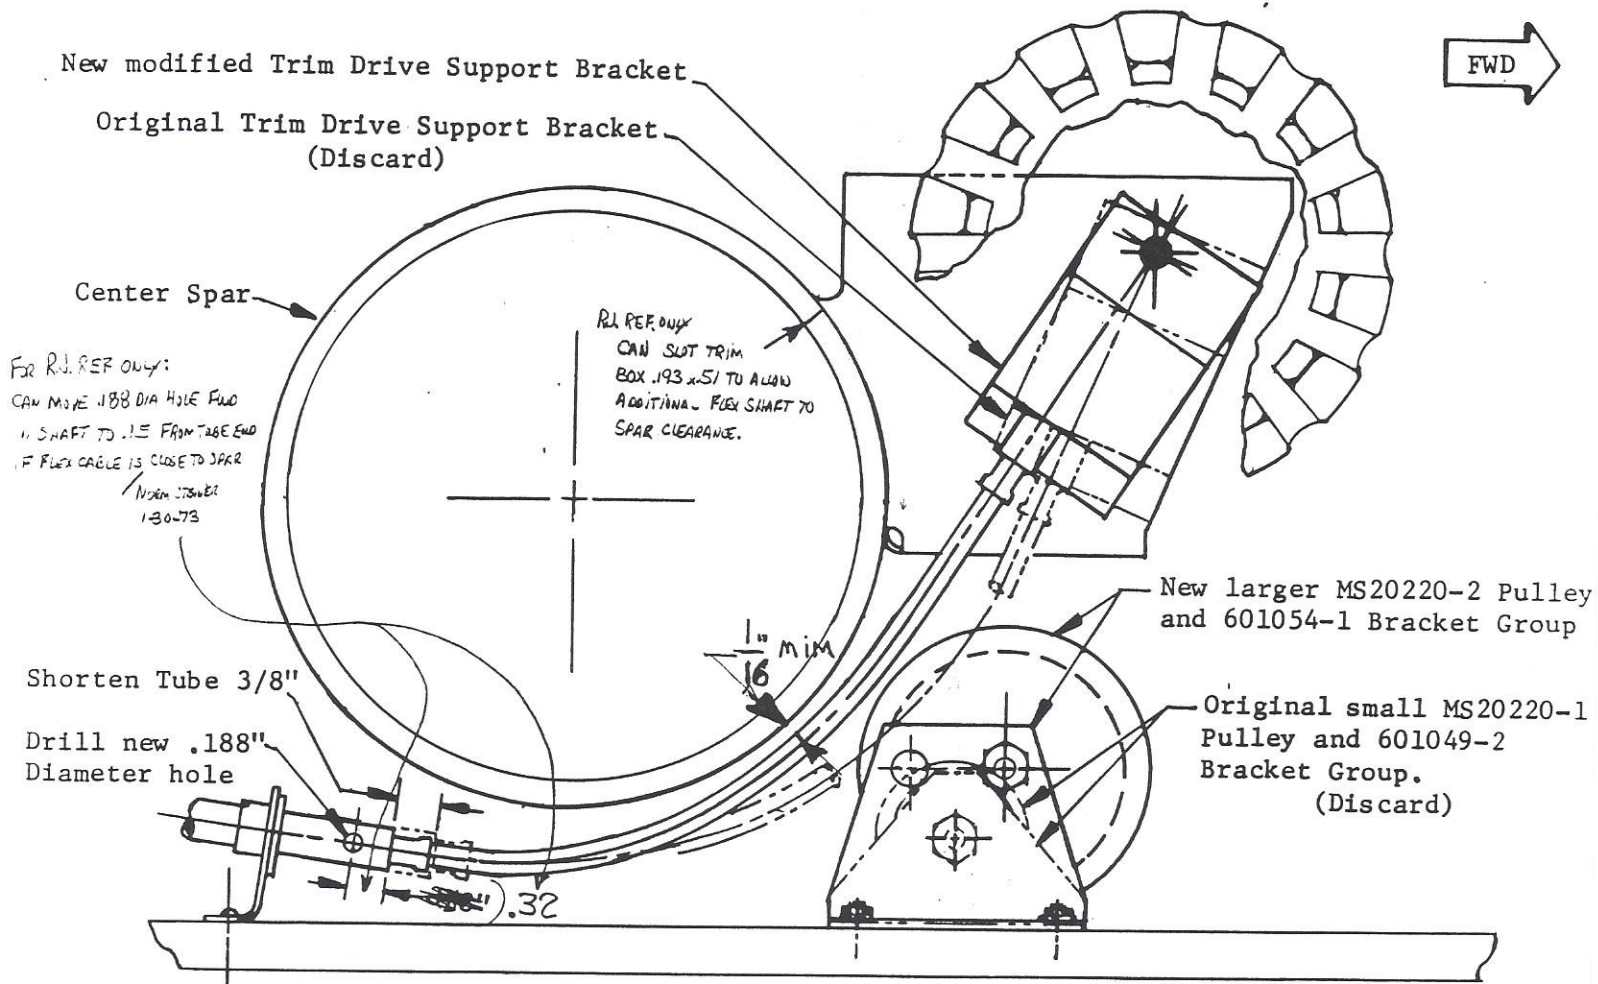

Figure 1. Large Pulley Installation and Trim Drive Modification
18. Disassemble control pulley assembly and reassemble using the large pulleys and the new brackets supplied with kit. Assemble with pulley shaft in the forward bracket holes as shown in Figure 1.
20. Install new pulley assembly in aircraft, being sure all control cables are on correct pulley. (See Figure 1.)